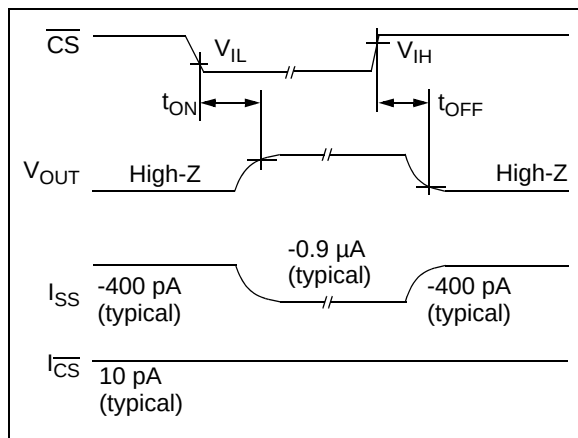

**FIGURE 1-1:** Timing Diagram for the  $\overline{CS}$  Pin on the MCP6033.
**Electrical Specifications:** Unless otherwise indicated,  $V_{DD} = +1.8V$  to  $+5.5V$ ,  $V_{SS} = GND$ ,  $T_A = +25^\circ C$ ,  $V_{CM} = V_{DD}/2$ ,  $V_{OUT} = V_{DD}/2$ ,  $V_L = V_{DD}/2$ ,  $C_L = 60$  pF,  $R_L = 1$  M $\Omega$  to  $V_L$  and  $\overline{CS}$  is tied low (Refer to Figure 1-1).